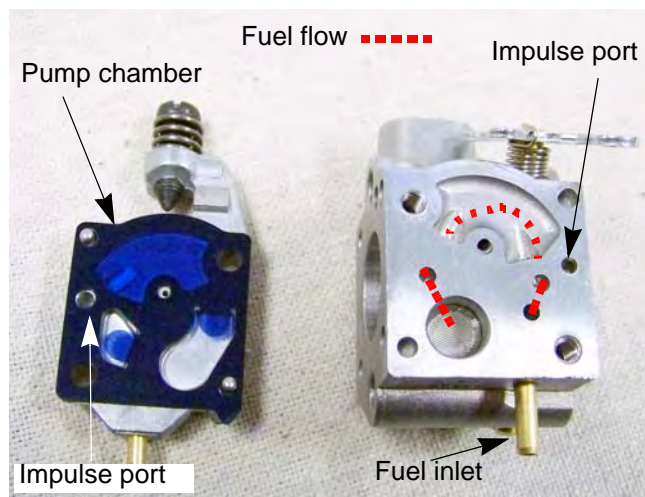

Figure 5.24
**NOTE:** The fuel pump in the carburetor is driven by pressure pulses in the crank case. The impulse port from the spacer lets the pulses pass through the carburetor body into the pump chamber. See Figure 5.24.